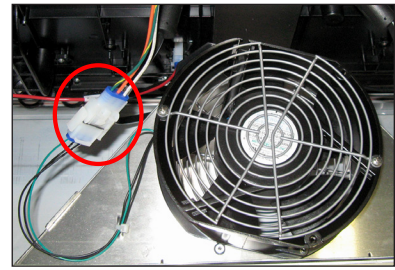

Figure 18: Fan Power Harness
1. Disconnect the power harness attached to the fan. Refer to **Figure 18**.